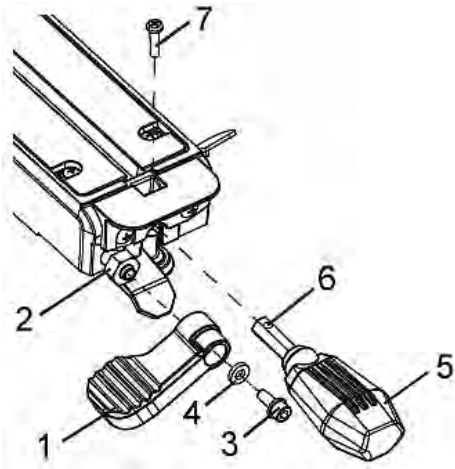

Fig. 7: Locking handle for the tilt angle
Step 1: Place the angle locking handle (1) on the shaft (2) at an angle of approx. 30° as shown in Fig. 7.
Step 2: Insert the hexagonal bolt (3) through the washer (4) into the miter locking handle (1).
Step 3: Tighten the screw (4) with the 5 mm Allen wrench.
Attaching the mitre lever (Fig. 7)